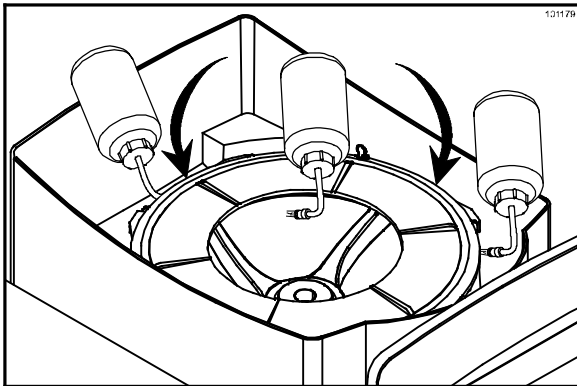

Figure 79
24. Using the squeeze bottle of cleaning solution, flush inside, outside, and under the ice shaver assembly, thoroughly covering all surfaces. (See Figure 79.)